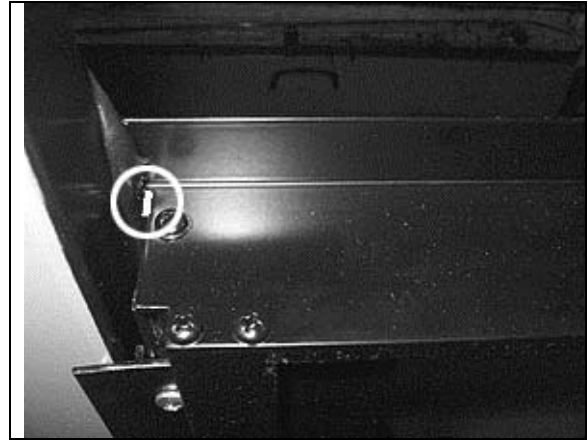

FIGURE 75 : AWNING WINDOW – SEAL THE CHINK
13. Using Sika 252 or 255, seal the chink between the structure vertical member and the awning window, both side (FIGURE 75);